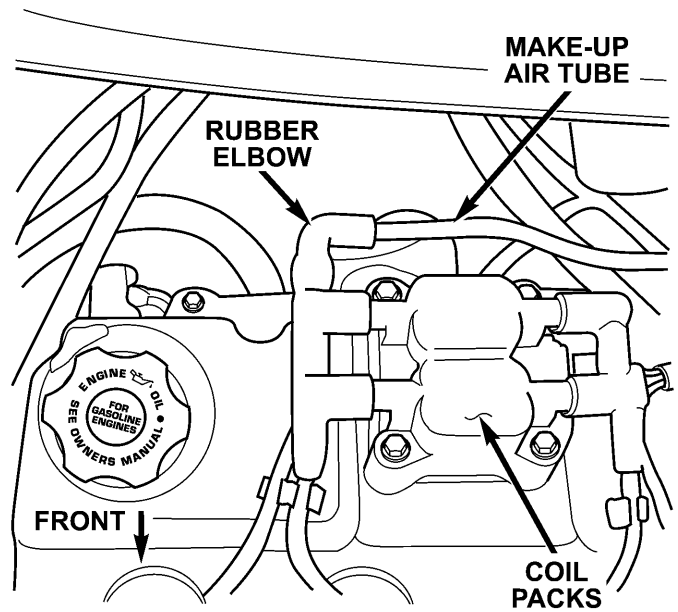

Figure 2
4. Disconnect the nylon make-up air tube from the elbow on the rear of the engine (Figure 2). Discard the make-up air tube.